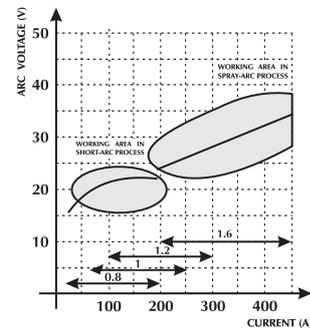

Fig.2 Diagram for selection the of best working characteristic.
- The wire feeding speed is proportional to the welding current. Fig. 2 and 3 show the relationships between the various welding parameters.